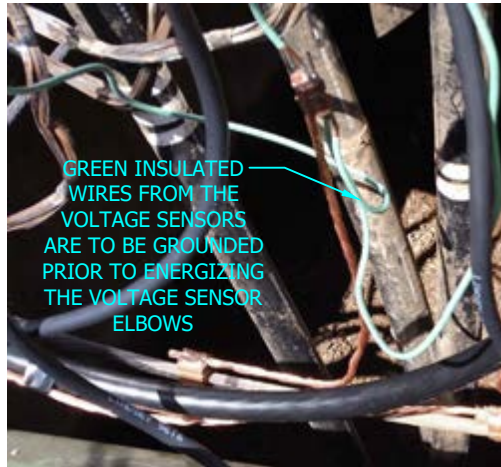

FIGURE 12
P. WARNING: VOLTAGE SENSORS ARE TO BE GROUNDED PRIOR TO ENERGIZING. VOLTAGE SENSOR ARE TO BE CONNECTED TO THE TIE POSITION OF THE SWITCH. IF APPLICABLE USING A FEED THRU DEVICE ON THE P.T. WILL ALLOW FOR THE VOLTAGE SENSOR AND P.T. TO BE CONNECTED TO THE SAME SWITCH POSITION. THE FUSE SIDE OF THE WHIP WILL BE INSTALLED ON THE REAR 200A CONNECTION OF THE TEE BODY. SEE FIGURE 12.